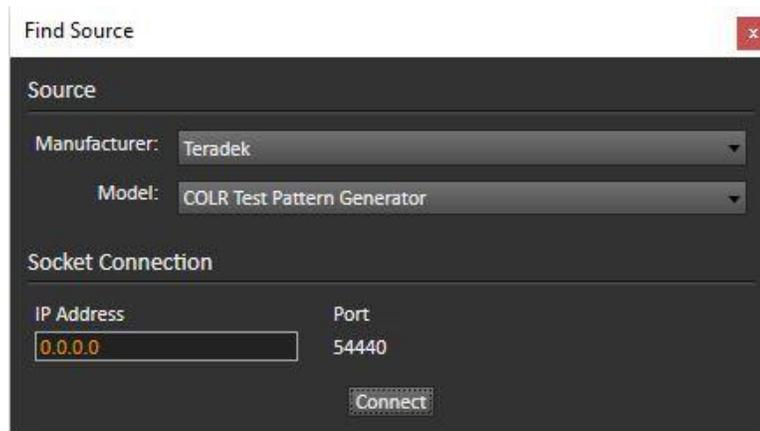

Figure 2. CalMAN Find Source dialog, for connecting to the COLR as a CalMAN pattern source.
- On the *Find Source* dialog (Figure 2), under *Manufacturer*, select 'Teradek.'